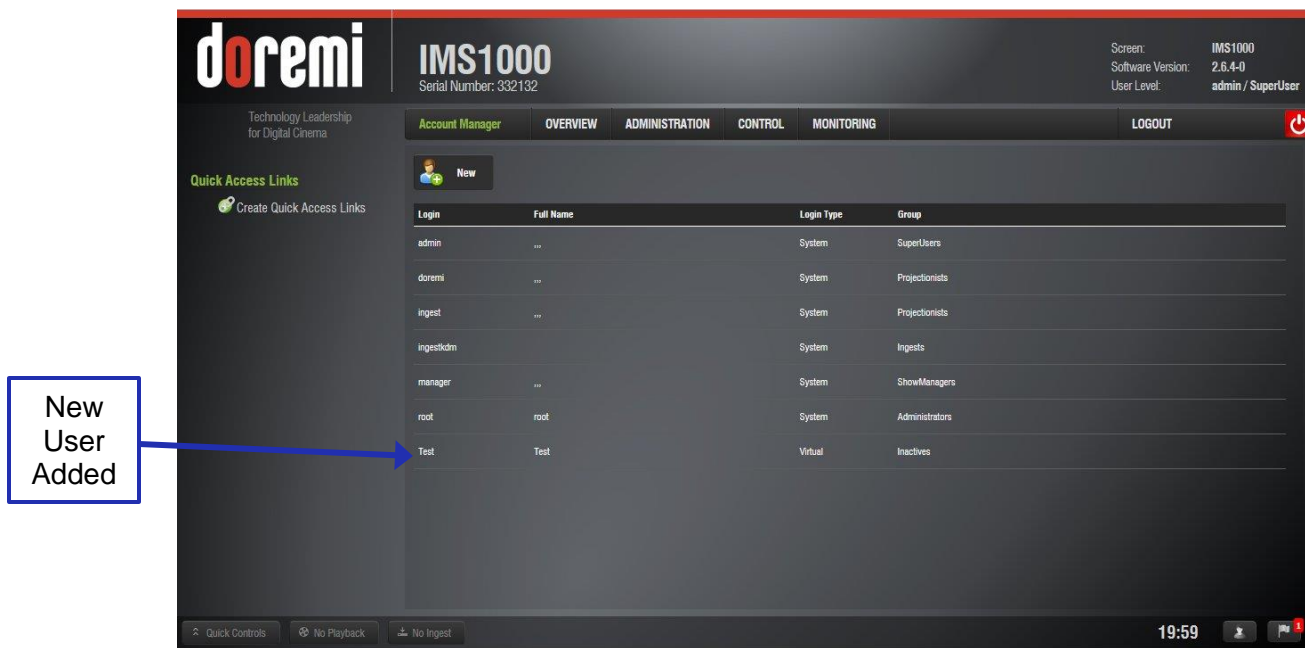

Figure 172: Account Manager GUI – New User Added
- The new user account will be visible in the main Account Manager GUI (Figure 172):